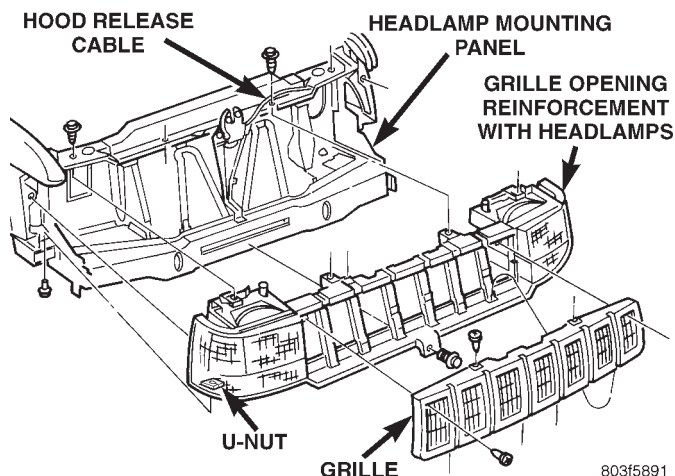
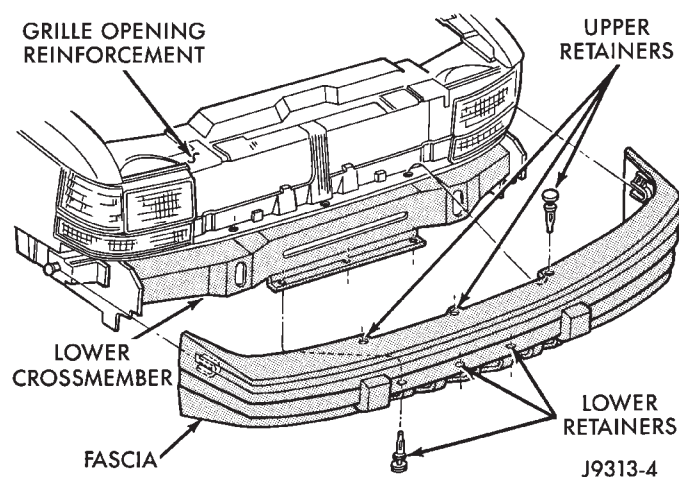

Fig. 1 Grille Removal
Fig. 2 Lower Fascia Removal
- (1) Remove grille screws at grille opening reinforcement (GOR) (Fig. 1).
- (2) Unsnap lower clips at grille. Remove grille from (GOR).
- (3) Remove turn signals, side markers and headlamps. Refer to Group 8L, Lamps for service information.
- (4) Remove the retainers at the front fascia (Fig. 2).